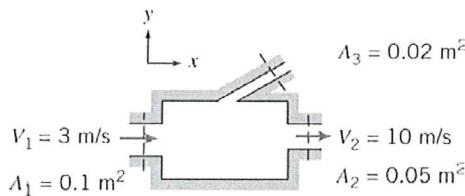

Figure 1
- Consider steady, incompressible flow through the device shown in figure 1. Determine the magnitude and direction of the volume flow rate through port 3.